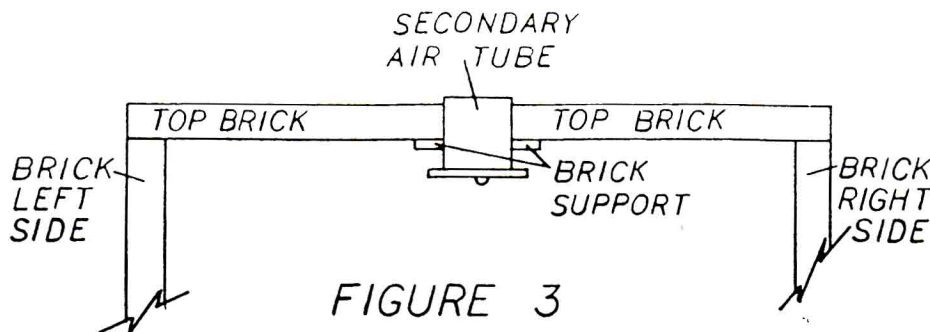

FIGURE 3
3. Install the top bricks, slipping the inside edge above the brick support and the outside edge above the top left and right side courses of brick which must now be installed simultaneously with the top bricks to hold these in place. See Figure 3 (8 of type {1} and 2 of type {3}).